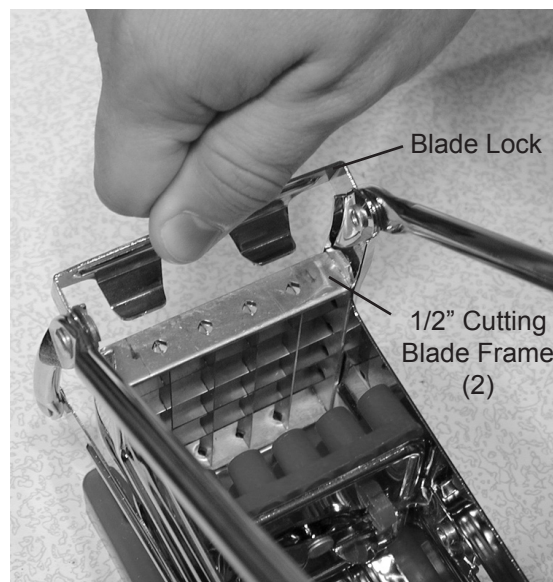

Figure 1
1. Place the Base Unit (1) on a clean, flat surface and turn the Suction Lever (5) all the way to the left. This will keep the unit immobile.
2. Insert the 1/2" Cutting Blade Frame (2) by first lifting the Handle (4) all the way up and pulling back on the blade lock. See Figure 1, below.